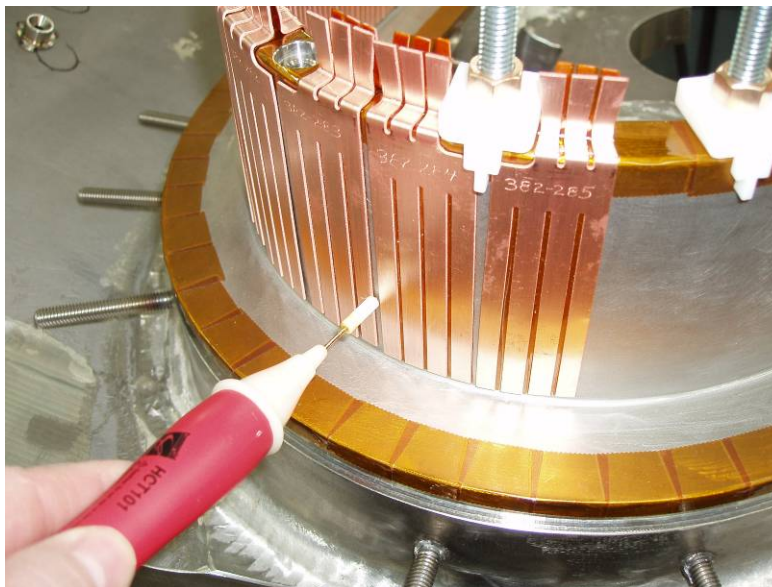

Figure 33-Verifying Cladding standoff w/Voltage Probe
- Under the oversight of a Quality Control representative a final check shall be made to verify that the cladding is positioned to the winding form with minimal buildup between cladding and the form. Using a voltage probe or multi-meter with a depth stop [<0.060 inch] insert the probe between each pair of cladding until the stop rests on the cladding surface. If the probe light is on, it indicates that the cladding is acceptable and within the required buildup. If the probe does not light, then the cladding piece must be removed and reapplied. These measurements may also be performed using Verniers. [Figure 33-Verifying Cladding standoff w/Voltage Probe] Quality Control shall sign off that the cladding has been satisfactorily inspected.